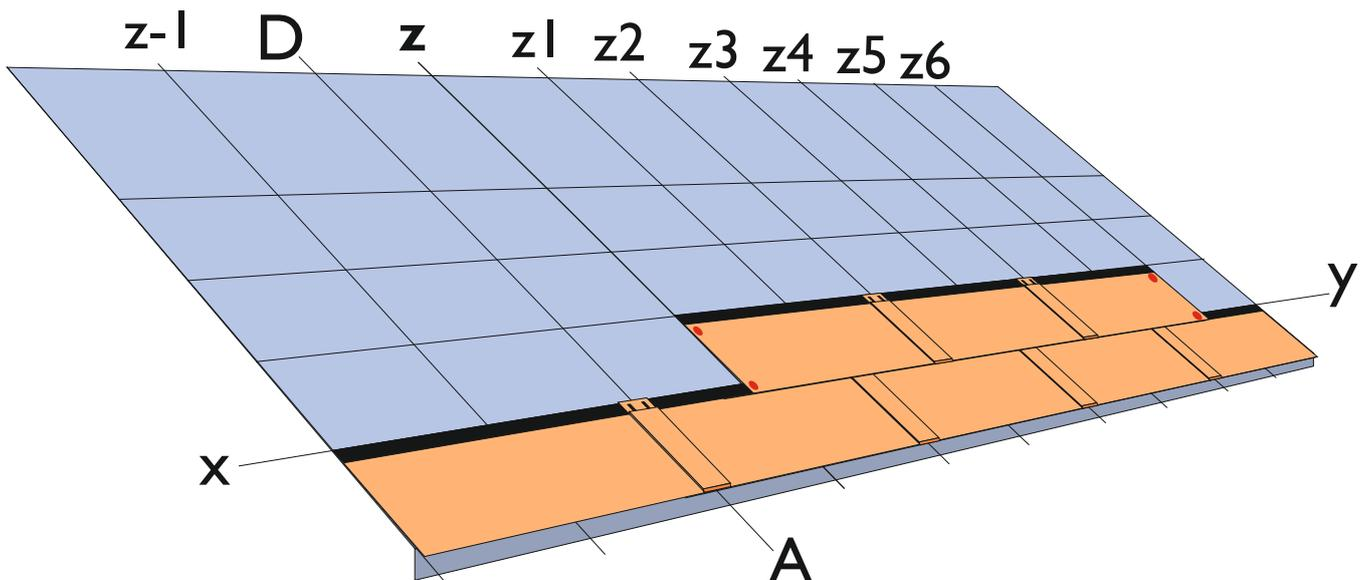

Fig. 10 - Installation of the Compact Clip
- Press the "Compact Strip" down, cover the sealed joint with Compact Clip (Fig. 10) and fix it by placing nails in the proper holes.